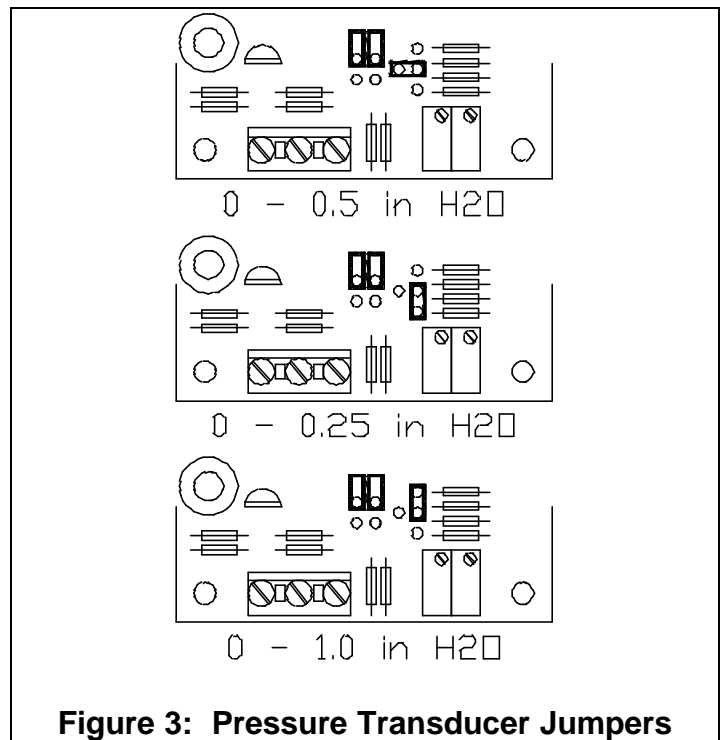

Figure 3: Pressure Transducer Jumpers
- 6) Verify that the jumpers on the pressure transducer are installed correctly, per Figure 3. The default pressure transducer output range is 0 – 0.5 in H₂O.